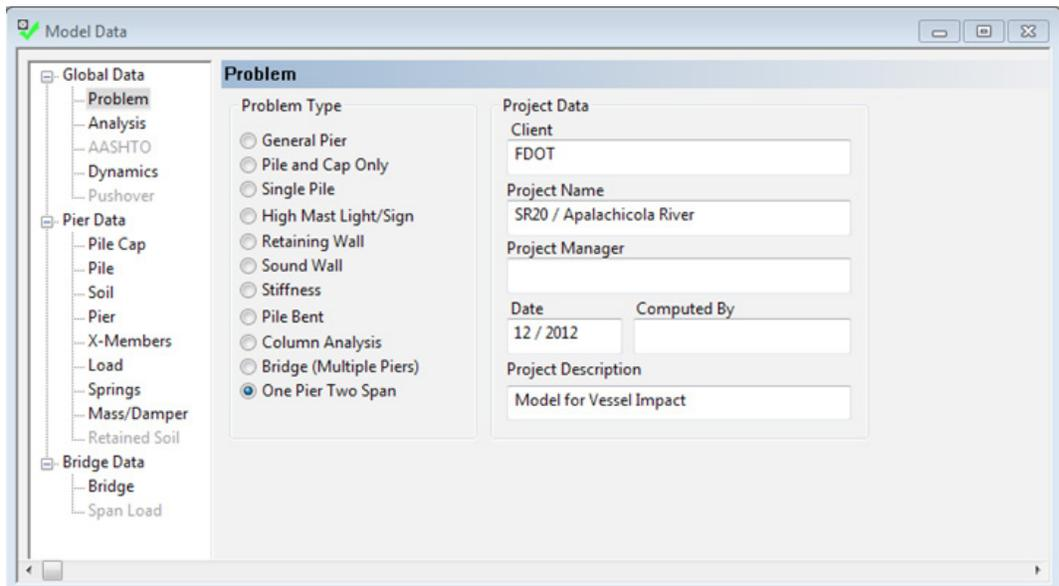

Figure 13 Select the “One Pier Two Span” (OPTS) Problem Type.
2. On the “Problem” page, click on the “One Pier Two Span” problem type (Figure 13).